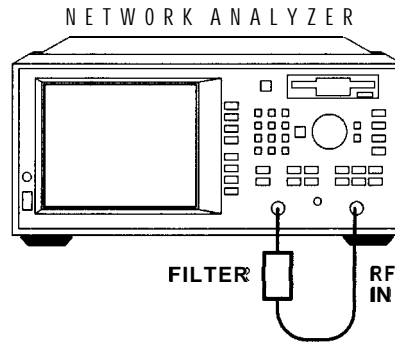

Figure 4-2. Connect the Filter to the Analyzer
1. To follow along with this example you will need to connect a notch **filter** to the analyzer in place of the **bandpass** filter shown in Figure 4-2.